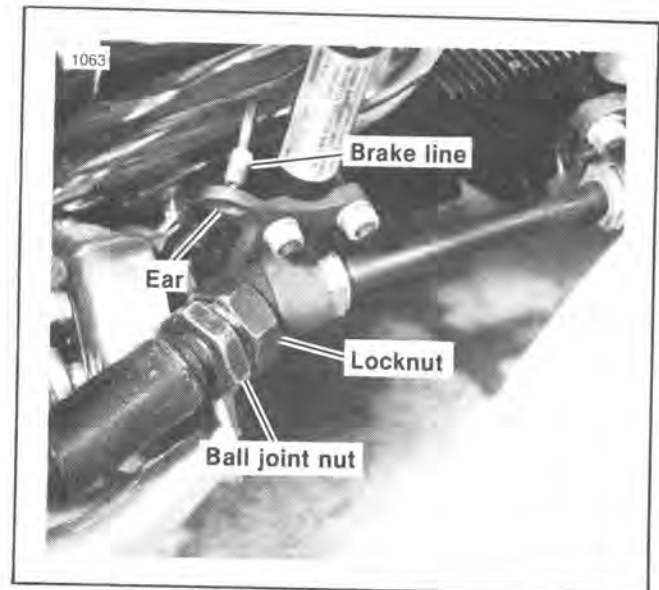

Figure 6-2. Front Lower Connection
3. See Figure 6-2. Place front ball joint in front ball joint connection and using SIDECAR CONNECTION NUT WRENCH, Part No. HD-94536-18, tighten ball joint nut until it bottoms, then back off 1/8 turn. Hold nut in this position and tighten ball joint locknut securely.
1. See Figure 6-2. Install flexible hose, supplied with sidcar, through ear and connect to brake line.